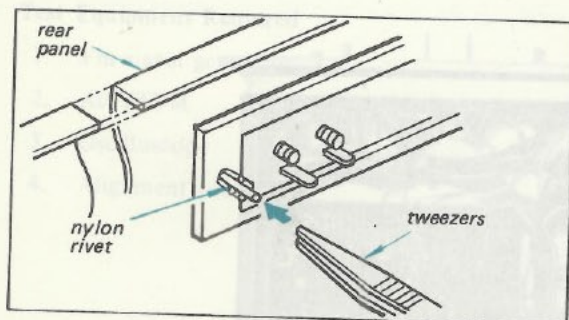

Fig. 2-17. Nylon rivet removal
2. Remove the nylon rivets securing the defective component by pushing its end with a tweezers as shown in Fig. 2-17.